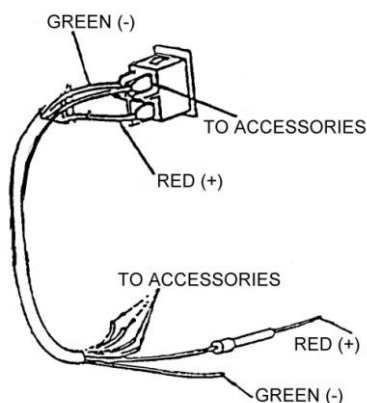

Figure 2
9. Wire switches per diagram. Figure 2